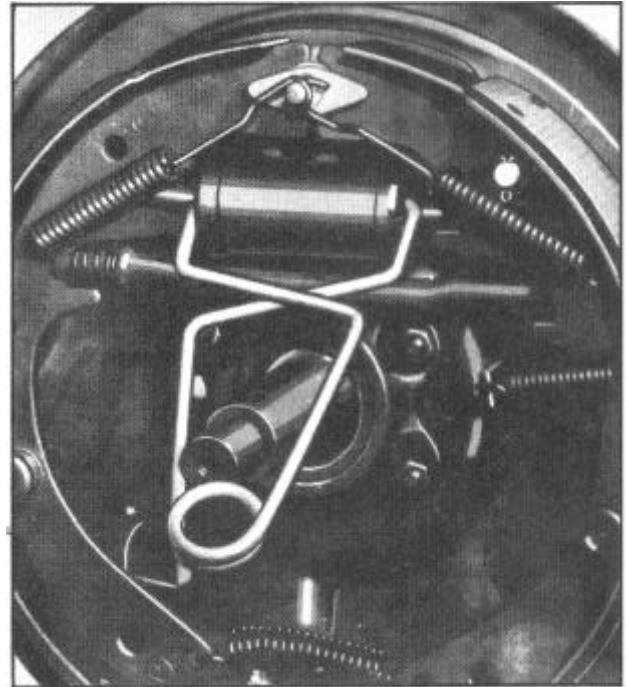

Figure 7--Wheel Cylinder Clamp
- 4. Place wheel cylinder clamp tool K.M.O. 145 on wheel cylinder as shown in Figure 7.
- 3. Place piston clamp tool K.M.O. 145 on wheel cylinder as shown in Figure 7.
- 4. Place piston clamp on wheel cylinder Figure 7.
- 3. Place piston clamp on wheel cylinder as shown in Figure 7.